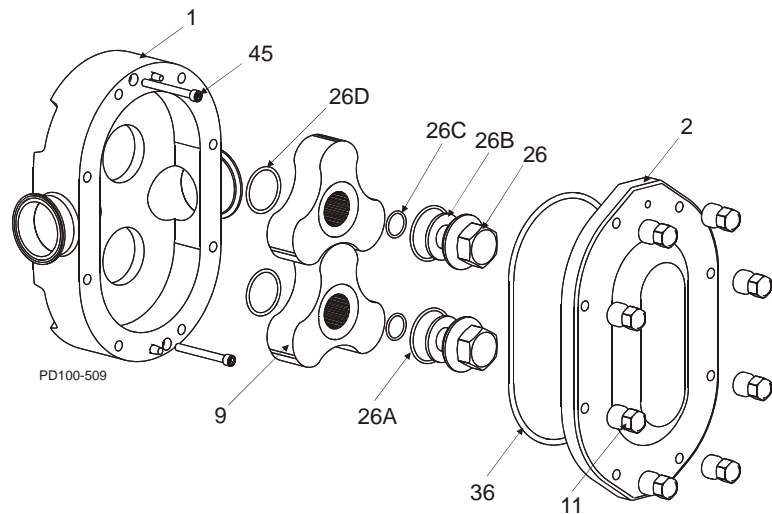

Figure 80 - Exploded View of Fluid Head
2. Install the body (Figure 80, item 1) to the gear case assembly, aligning the body with the body studs. Avoid damaging the seals as the body is drawn over the shafts.
3. Secure the body to the gear case using two cap screws (Figure 80, item 45).
1. Lubricate the o-ring (Figure 80, item 26D) with a lubrication compound compatible with the o-ring material and process fluid(s).
2. Install the new rotor hub o-rings (item 26D) into the groove in the rear of the rotor.
3. Install the rotors (item 9) onto the shafts with the o-ring toward the gear case.
Table 10: Callout table for Figure 80
1. Install the belleville-style washer (Figure 80, item 26B) into rotor nut with raised side of washer toward rotor nut.
2. Place the retainer o-ring (item 26C) into rotor nut to retain the belleville-style washer. The washer should not be tight against the o-ring.
3. Lubricate the new rotor nut o-ring (item 26A) with a lubrication compound compatible with the o-ring material and process fluid(s). If the o-ring is not lubricated it will pucker when tightening the rotor nut.
7. Screw the rotor nuts (Figure 80, item 26) onto the shafts (clockwise) and tighten them to the required torque.
1. Clean the cover o-ring (Figure 80, item 36) and install it in the groove in the cover.
3. Install the cover (Figure 80, item 2) on the pump body.
5. Tighten the cover securely using the cover nuts (Figure 80, item 11).